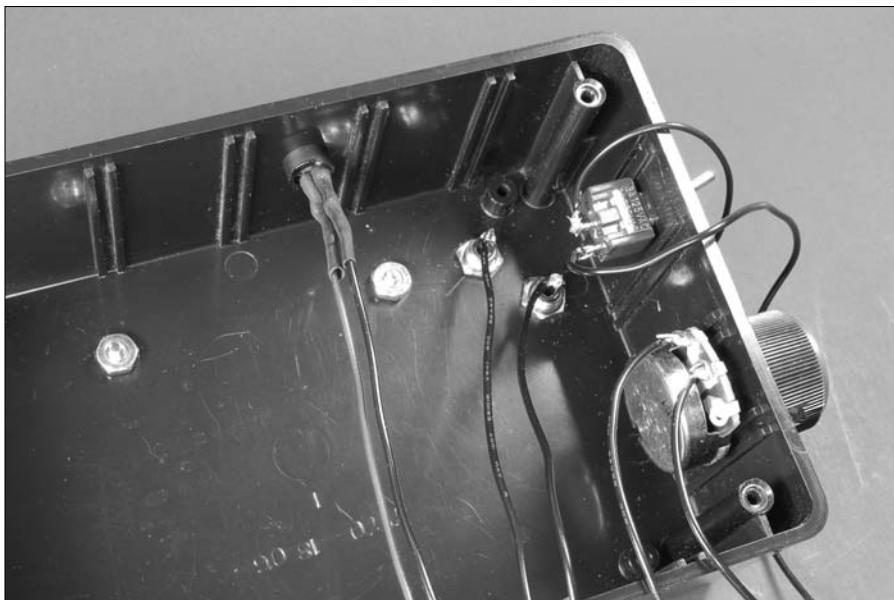

Figure 12-11:
8. Solder the black wire from the battery pack to one lug of the on/off switch and solder an 8" black wire to the remaining lug of the on/off switch, as shown in Figure 12-11.
9. Solder an 8" wire to the center potentiometer lug and another 8" wire to the left potentiometer lug, as shown in Figure 12-11.
10. Solder a red 8" wire to the long lead of the LED and a black 8" wire to the short lead of the LED, as shown in Figure 12-11.
12. Solder an 8" wire to the lug on each of the phono jacks, as shown in Figure 12-11.